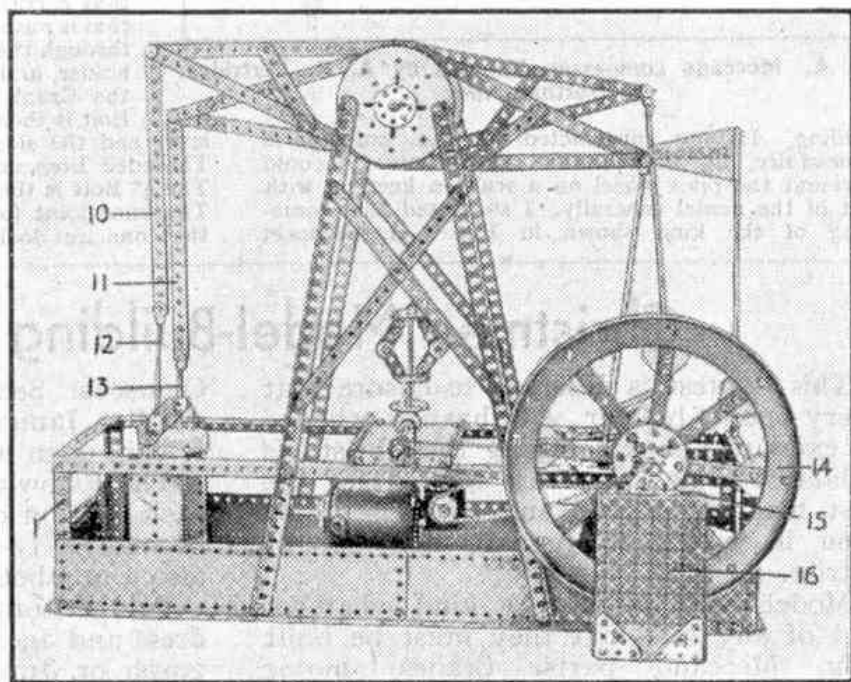

Fig. 1. A fine working model Twin Beam Engine.
**C**ONSTRUCTION of the model Beam Engine shown in Figs. 1 and 2 is begun by building up two rectangles from  $18\frac{1}{2}$ " and  $7\frac{1}{2}$ " Angle Girders. For these the ends of two  $18\frac{1}{2}$ " Girders are bridged by two  $7\frac{1}{2}$ " Girders, the four being securely bolted together. When the two rectangles are built they are connected together by four  $5\frac{1}{2}$ " Angle Girders 1 placed one at each corner as shown in Fig. 1. Two further  $5\frac{1}{2}$ " Angle Girders 2, Fig. 2, serve as supports for a  $5\frac{1}{2}$ "  $\times$   $3\frac{1}{2}$ " Flat Plate that forms a base for the governor mechanism. The beams are carried on supports consisting of four  $18\frac{1}{2}$ " Angle Girders, which are bolted two on each side of the base as shown, and at their upper ends are bolted to 4" Circular Plates. These Plates each carry a Bush Wheel in which the axle on which the beams pivot is journalled. The construction of the beams will be clear from Fig. 1. The Rod on which the beams pivot is passed through the centre holes of two  $4\frac{1}{2}$ " Angle Girders, which form the centre vertical member of the beams. The  $9\frac{1}{2}$ " Strips of the beams are bolted to the ends of these Girders.
The opposite ends of the beams also carry 1" Rods on each of which pivot two pairs of  $9\frac{1}{2}$ " Strips 10 and 11, Fig. 1, which form the links between the beams and the piston rods 12 and 13. Connection between the Strips and the Rods is made by means of large Fork Pieces.